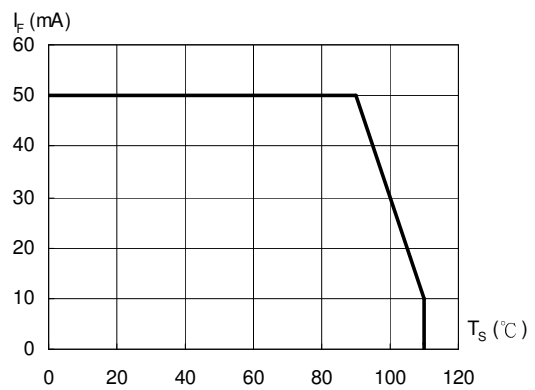

Fig.4 Allowable Forward Current vs. Solder Point Temperature
- Note: 1. Design of heat dissipation should be considered. For the allowable operating current at different operating temperature, please refer to fig 4. page 6.